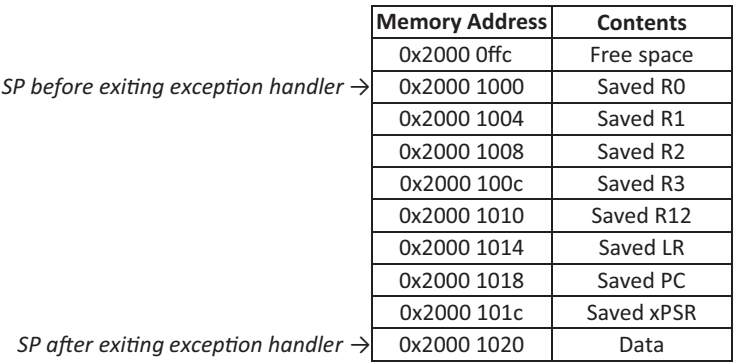

Figure 4.17 Stack changes upon preparing to exit an exception handler.
3. The CPU restores the context from that stack, as shown in Figure 4.17. This consists of the registers that were saved previously: the xPSR, the program counter (the return address), the LR (or R14), R12, R3, R2, R1, and R0.